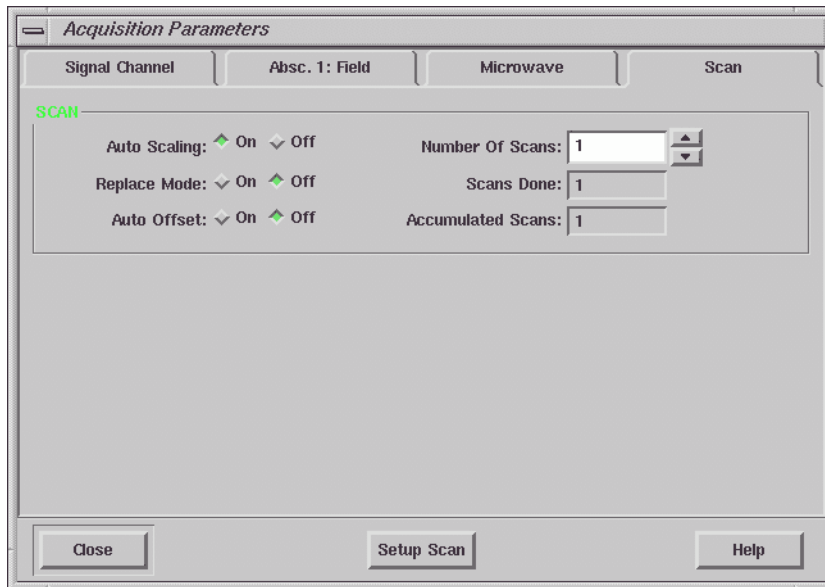

Figure 3-13 Setting the Scan parameters.
6. **Set the Scan parameters.** Click the Scan tab and make sure that the Number Of Scans is set to one. (See Figure 3-13.)